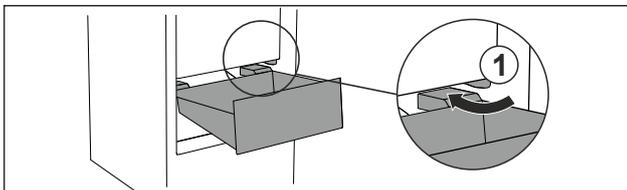

Fig. 26
- ▶ Guide drawer in at an angle around the stoppers Fig. 26 (1).